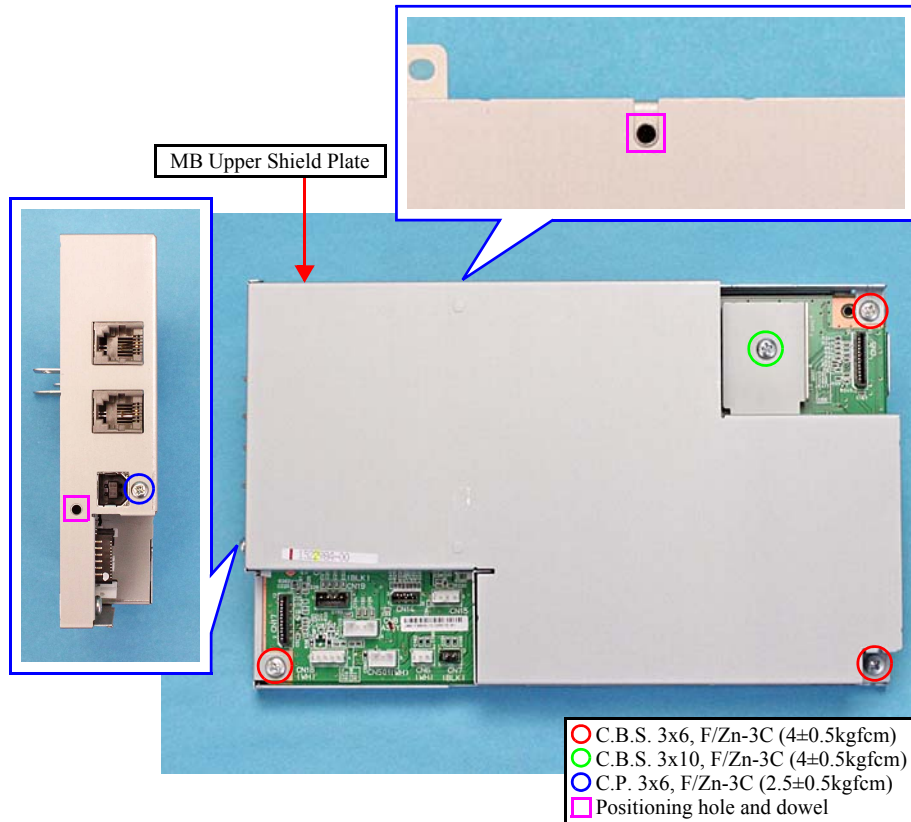

Figure 7-34. Removing the MB Upper Shield Plate
- When reassembling the Main Board Unit, make sure to match the positioning holes (x2) to the dowels (x2) as shown in Figure 7-34.